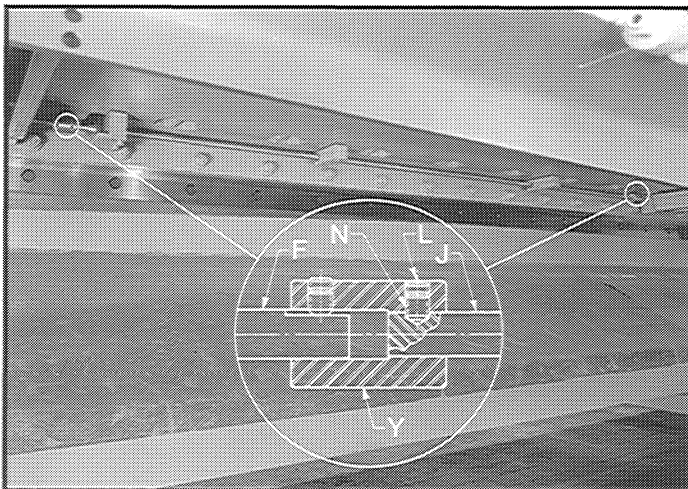

FIGURE 9-25 - Connecting shaft couplings
- F. There are two couplings ("Y" on Figure 9-25) that connect the two backgage guides by means of connecting shaft "F". It will be necessary to loosen the coupling "Y" from the guide of the farthest side, as found in Step "E". This will allow the guide screws to be rotated independently from each other.